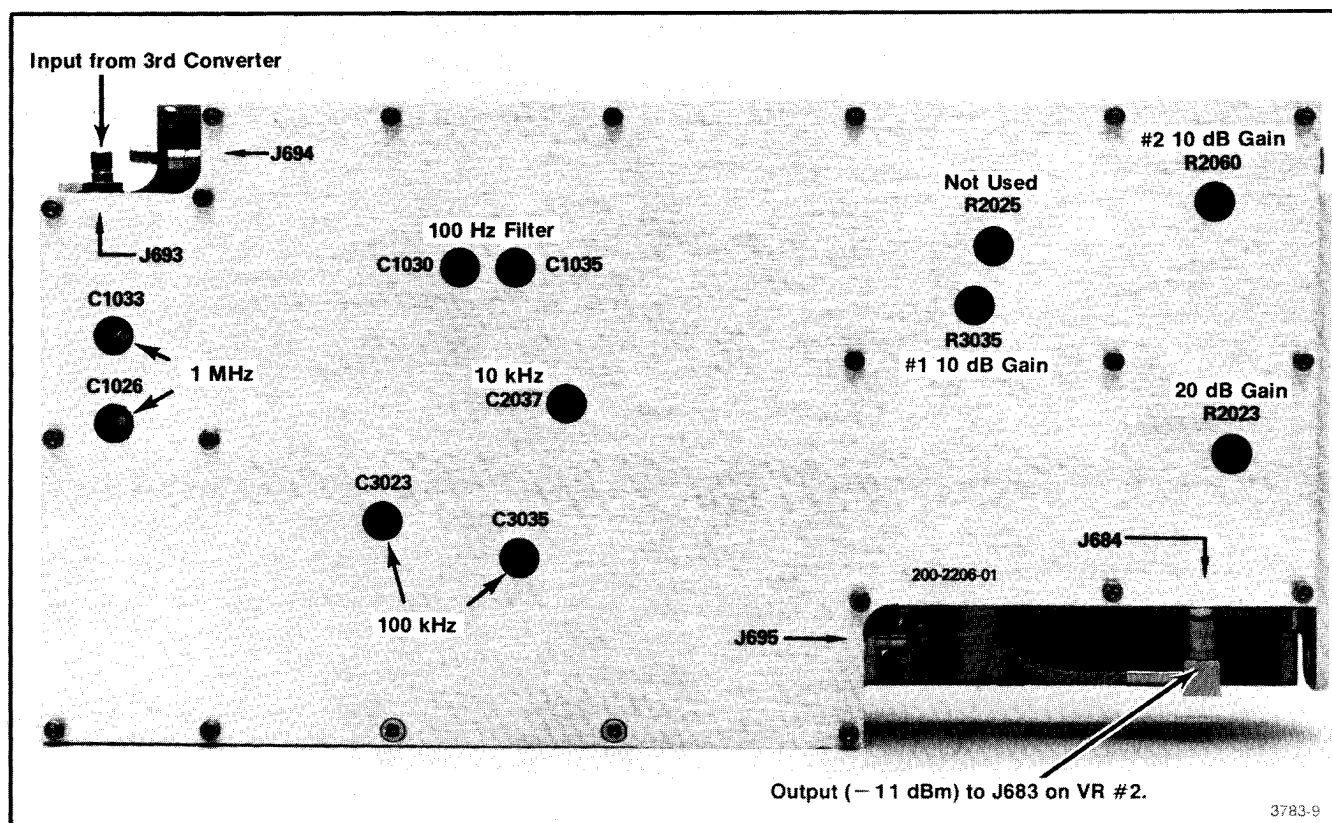

Fig. 3-44. Calibration adjustments on the VR #1 module.
l. Now, switch the FREQ SPAN/DIV to 50 kHz, the RESOLUTION BANDWIDTH to 100 kHz, and adjust the 100 kHz filter with C3023 and C3035 (Fig. 3-44) for filter shape and frequency centering.
n. Switch the RESOLUTION BANDWIDTH to 1 MHz and FREQ SPAN/DIV to 500 kHz; then adjust the 1 MHz filter response and centering with C1033 and C1026 (Fig. 3-44).
p. Adjust the 10 kHz filter with C2037 (Fig. 3-44) for best filter shape.
q. If the instrument has Option 03, switch the RESOLUTION BANDWIDTH to 100 Hz and the FREQ SPAN/DIV to 500 Hz. Adjust the 100 Hz filter with C1030 and C1035 (Fig. 3-44) for amplitude and waveshape.
d. Disconnect P693 from the input to VR#1 module (Fig. 3-44) and apply a 10 MHz, -35 dBm signal from the signal generator through a bnc-to-Sealectro adapter to J693. Adjust the generator frequency to peak the signal.
i. Adjust the 10 dB Gain R3035 (Fig. 3-44) of VR#1 so the signal amplitude is 7 divisions.
k. Adjust the 20 dB Gain R2023 (Fig. 3-44) for a 7 division signal amplitude.
m. Adjust the 10 dB Gain R2060 (Fig. 3-44) for a 7 division signal amplitude.